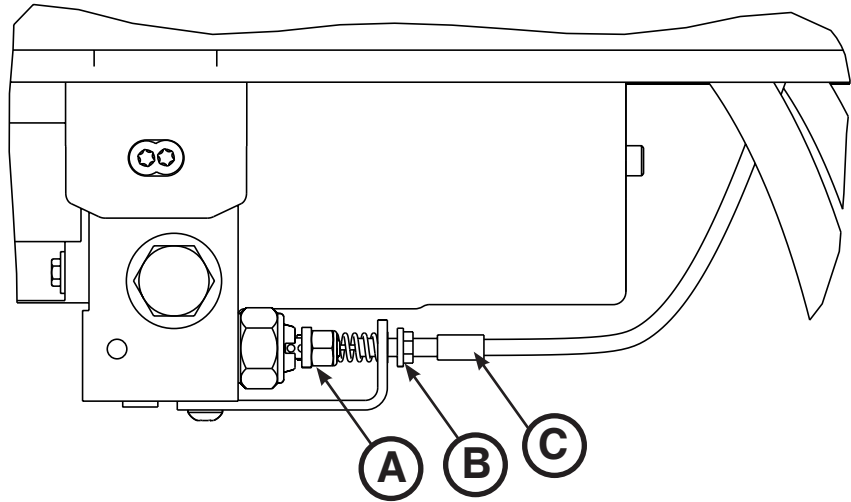

Figure 87
2. Ensure that the manual release cable is intact (A) (Figure 87).
3. Using a 10 mm combination wrench, loosen the cable lock nut (B) (Figure 87).
4. Using a 8 mm combination wrench, adjust the tension on the manual release cable so it just starts to touch the manual release dual pull bracket (C) (Figure 87).